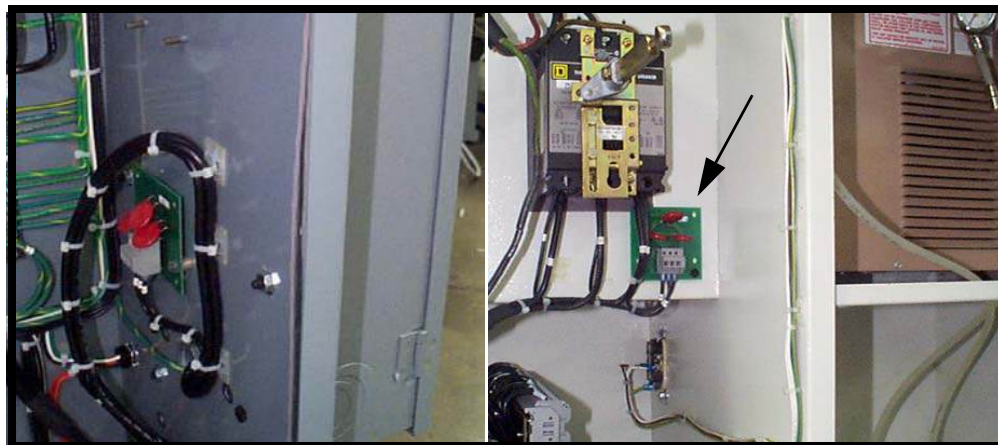

Figure 3-4 MOV Surge Suppressor Board
- 1) Locate the MOV Surge Suppressor Board (see figure 3-4).